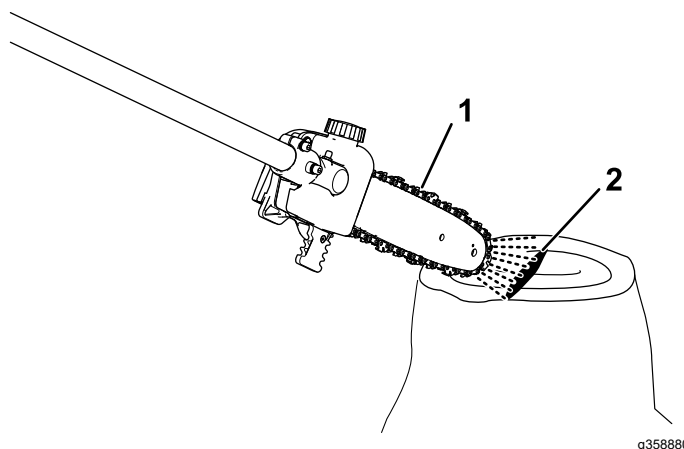

Figure 12
- To ensure that oil is flowing to the chain, point the nose of the pole saw a few inches from a surface (e.g. paper, cardboard, a stump) and run the pole saw; you should be able to see a light spray of oil on the surface (Figure 12).